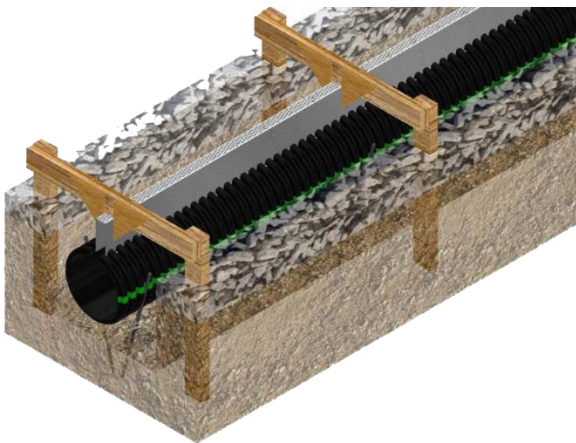

Figure 3
- Brace the Duraslot so that it remains secure in place (Figure 3).